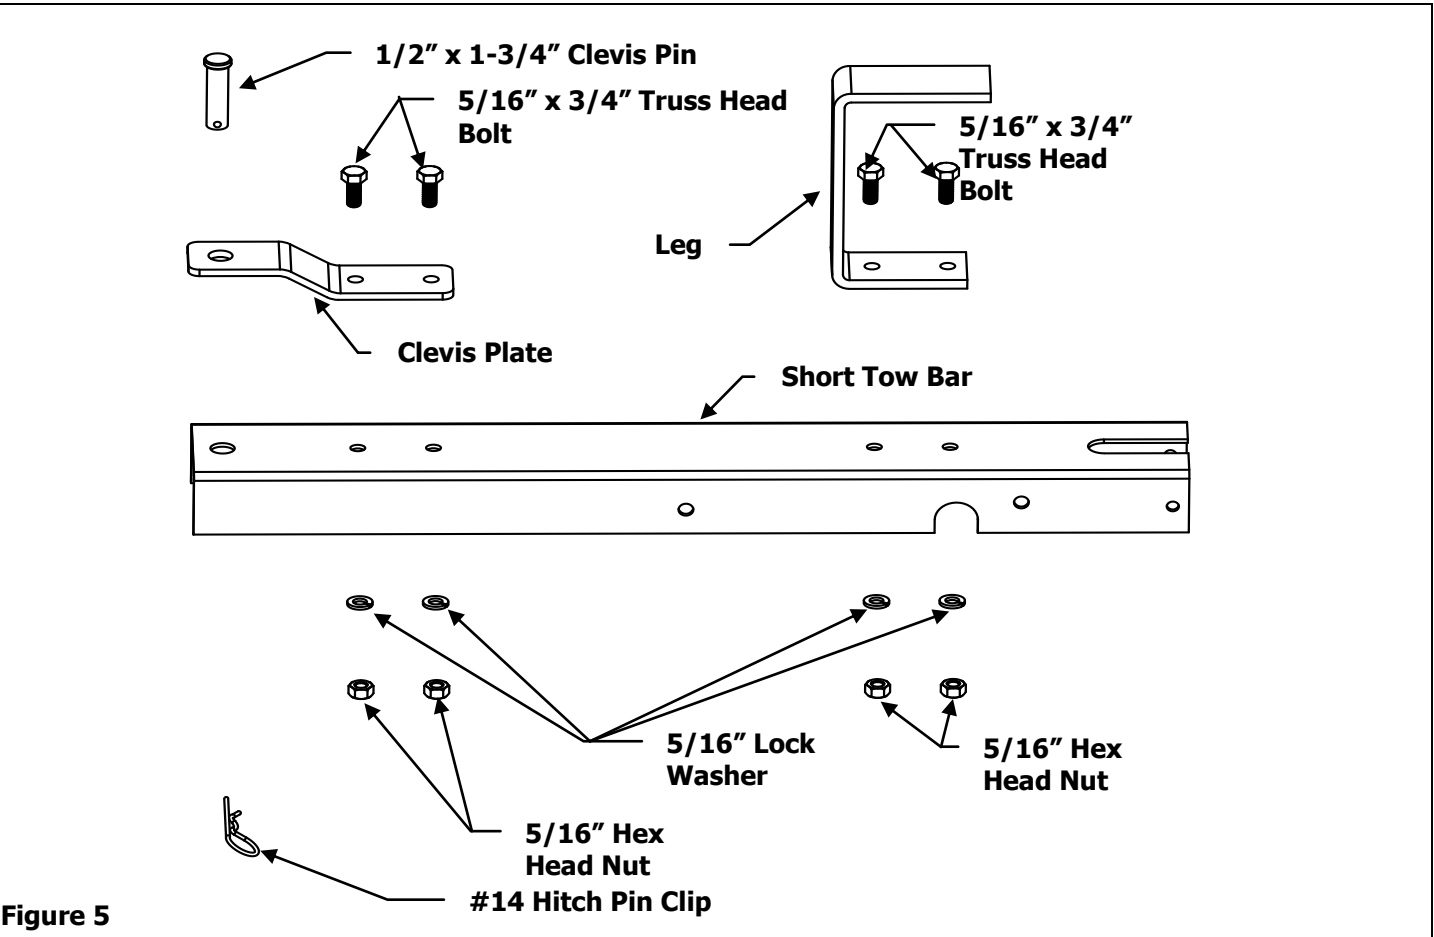

Figure 5
6. The Leg and Clevis Plate are both attached to the Short Tow Bar, using two 5/16" x 3/4" Truss Head Bolts, two 5/16" Lock Washers and two 5/16" Hex Head Nuts. Insert 1/2" x 1-3/4" Clevis Pin into the 1st (large hole) in the Clevis Plate and secure with #14 Hitch Pin Clip. See Figure 5.